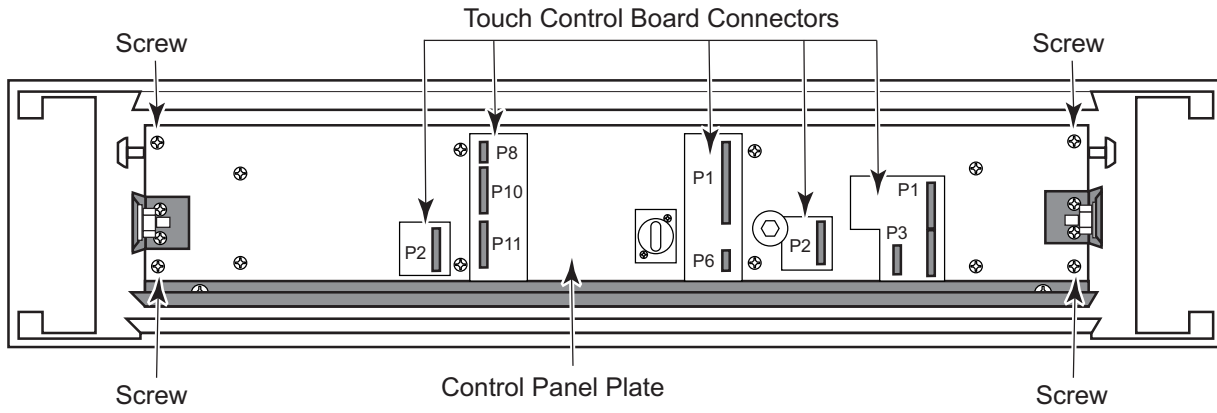

Figure 16A
3. Disconnect the nine (9) cables from the left and right touch control board connectors (see Figure 16A).
4. Remove the four control panel plate screws (two on each end) and lift it and the wiring off the control panel (see Figure 16A).